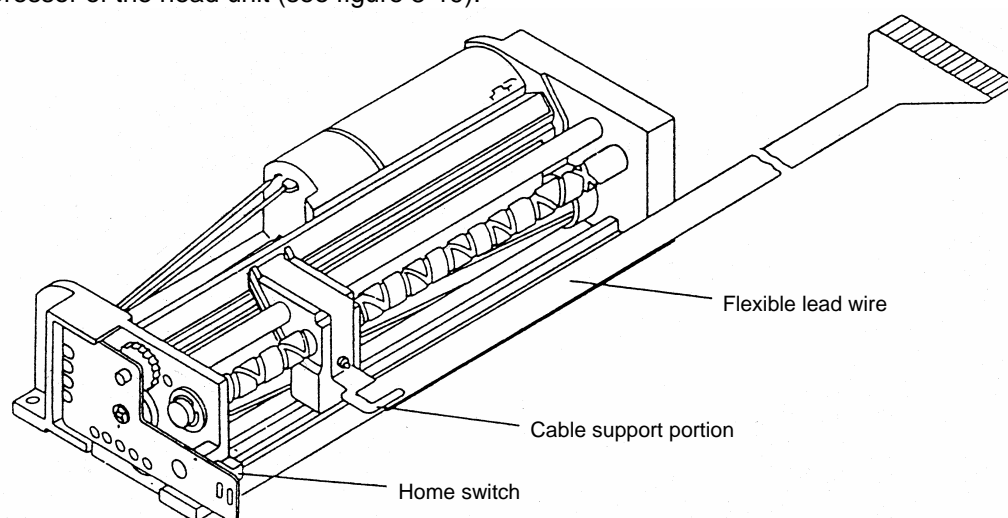

Figure 8-19 Inserting the Flexible Cable
- (6) Insert the flexible cable into the cable support of the flexible cable plate with care not to bend the heat compressor of the head unit (see figure 8-19).